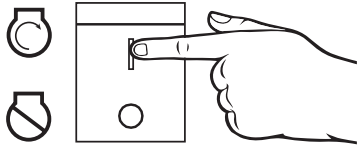

Figure 11 - Engine Control Switch - RUN
7. Push the engine control switch into the  position (see Figure 11).